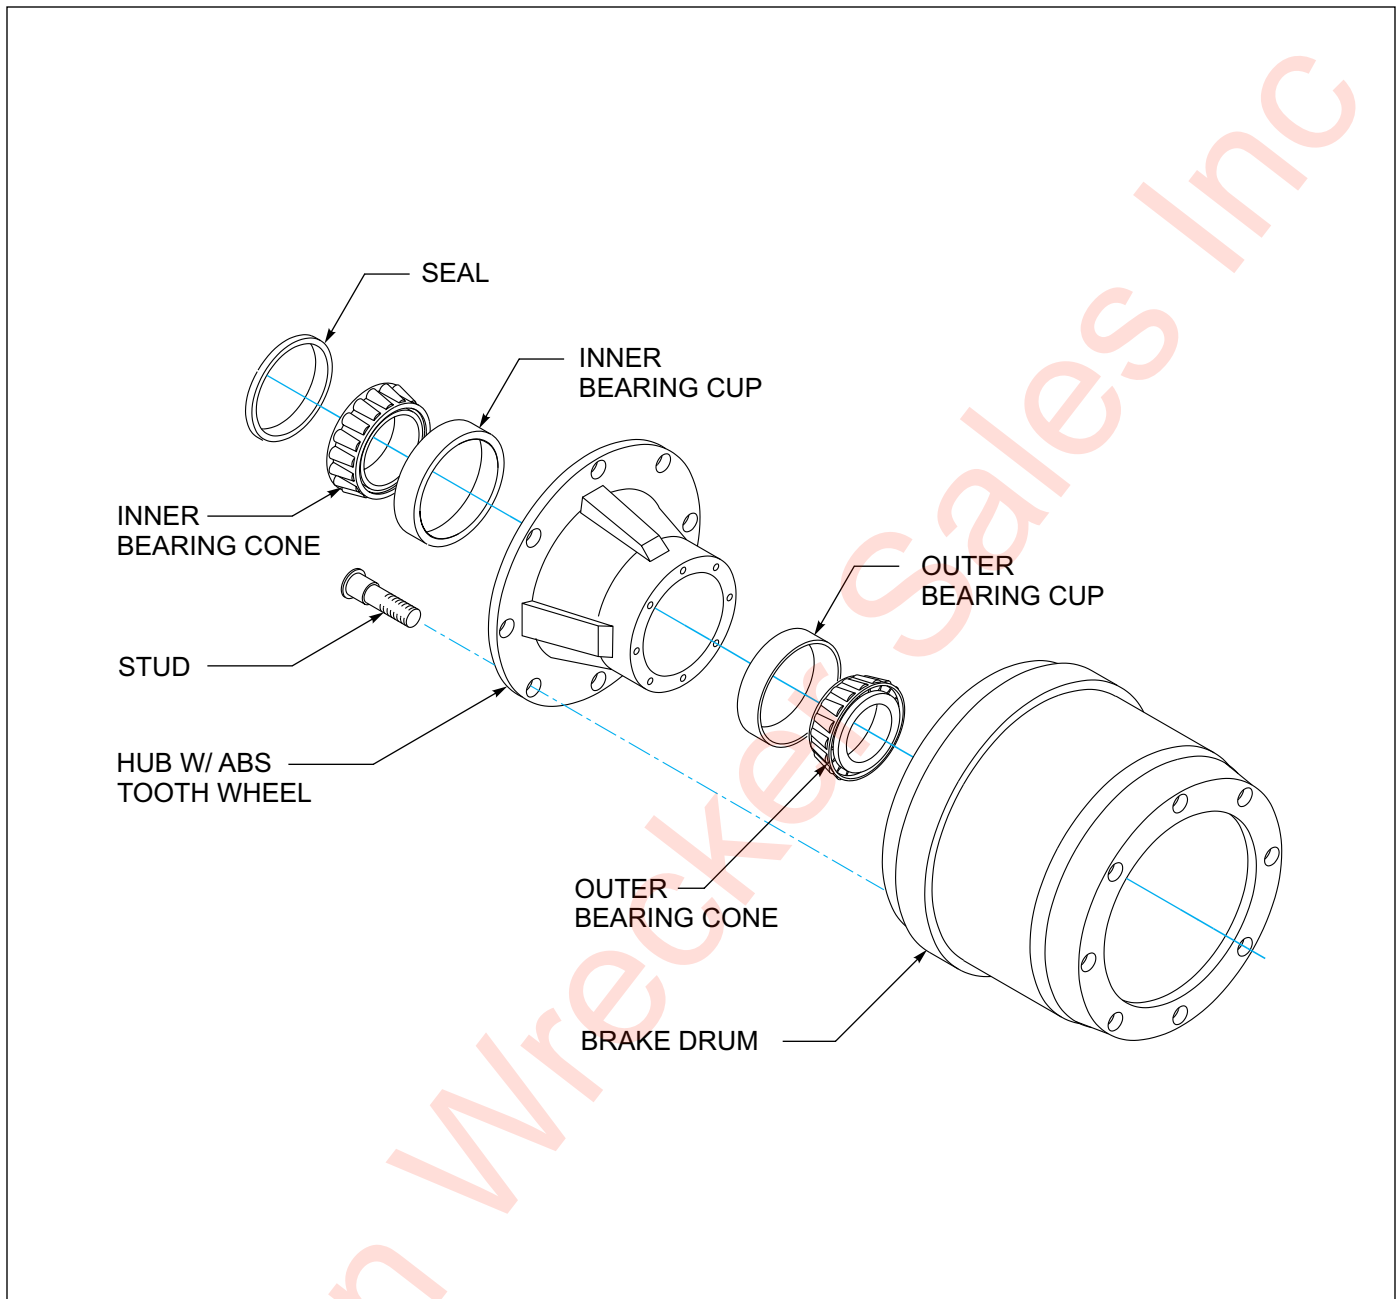

Figure 4-13: Outboard Mount Hub and Drum
3. Remove drum assembly (See Figure 4-13.)
(See Figure 4-13.)
- i. Place the drum over the hub and brake shoes being careful not to damage the threads on the studs (See Figure 4-13.) Make sure the drum seats flat against the hub flange and mates properly with the hub pilot. There should be no interference between the brake drum pilot chamfer and the corner radius on the hub. If interference exists, the hub will not be able to function properly.